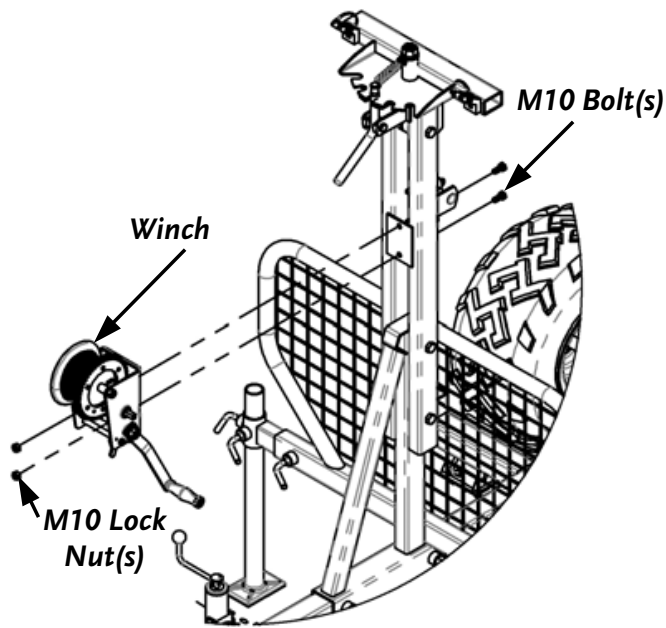

Figure 30
2. With the assistance of a second person, install the Winch (**Figure 30**), with the Crank Handle facing to the Left, using two M10 x 25mm Bolts, and Lock Nuts. Tighten using a 17mm Socket w/Extension and Adjustable Wrench and reinstall the Boom Swivel Bracket.